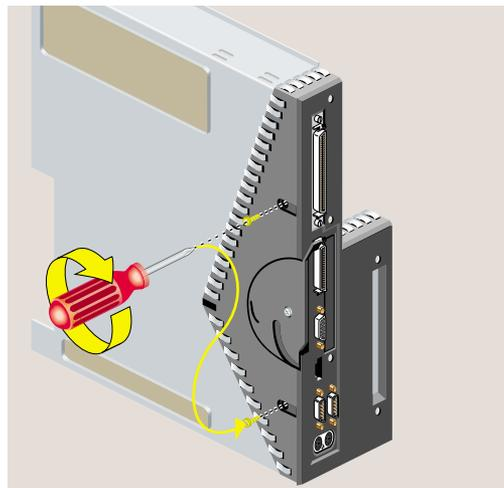

Figure 2-46 Replacing Two Screws on the Face Plate
3. Align the screw holes on the faceplate with the screw holes on the system module. Use a Phillips screwdriver to insert and tighten two screws on the underside in the locations shown (Figure 2-46).